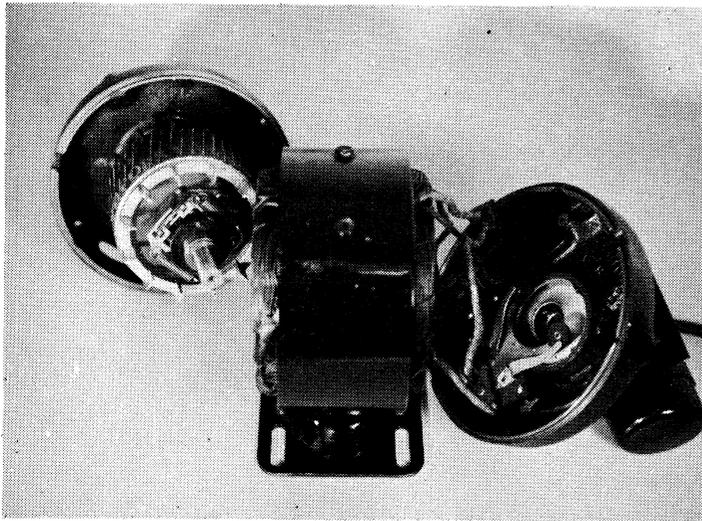

Figure 1-18. AC Motor Showing Internal Connectors
3. Normally there are two leads coming from inside the motor and fastened to the terminal posts (Figure 1-16 or 1-17). These two leads are usually from the start winding. The leads from the run winding are usually soldered to the back side of the terminal board (Figure 1-18).